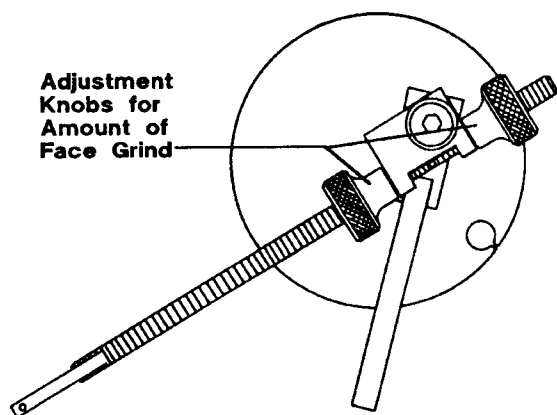

FIG 2-45
Be sure the clamping fixture is unclamped. Rotate the cam of the automatic attachment to a 2 o'clock position as shown in **Figure 2-45** (this will allow the indexing arm to clear the grinding wheel). With your right hand, lift the sharpener head with your thumb and indexing arm with your fingers. Set the blade into the clamping plates with the teeth leaning to the right. Position the blade on all three roller supports. Clamp the blade in the clamping fixture.
1. The face grind adjustment determines how much material will be ground off the face of each tooth. By adjusting the two aluminum knobs of the indexing arm (**See Figure 2-45**) to the right, less material will be ground from the tooth face. Adjusting the two knobs to the left will cause a heavier grind on the face of the tooth. These knobs must be tightened against the adjustment block to maintain proper alignment.
With the sharpener switch in the "OFF" position and the control box setting on '0', lift the sharpener head and push the "START" button on the control box. Slowly increase the control setting until the index arm contacts a tooth, pushes it to the left and rotates away from the tooth. Turn the control setting back to '0' and push the "STOP" button. Lower the sharpener head (the sharpener should NOT be running) and let the grinding wheel contact the tooth. Rotate the grinding wheel by hand to check the amount of grind on the face of the tooth. If the grind is too heavy, rotate the adjustment knobs in **Figure 2-45** counter-clockwise. If the grind is too light, turn the knobs clockwise. Hold the sharpener head up and push the "START" button. Increase the control setting until the index arm places the next tooth in position under the grinding wheel. Turn the control to '0', push "STOP", and check the grind of the wheel against the tooth. Repeat adjustments as necessary.